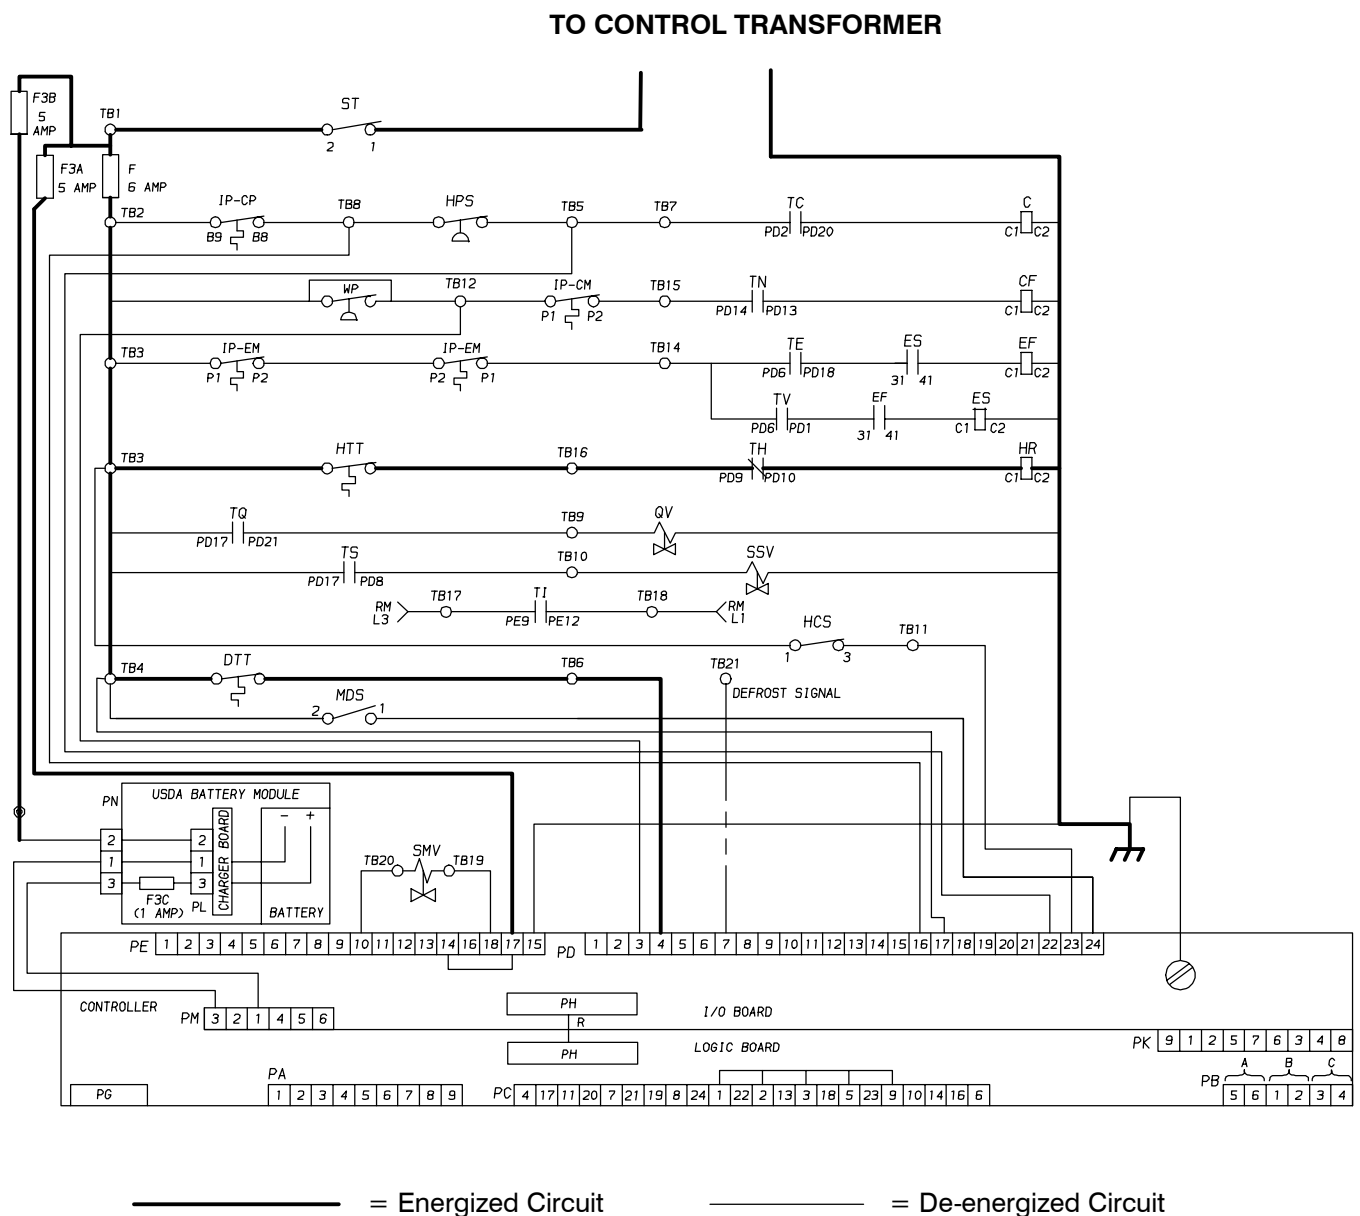

Figure 2-3. Defrost
2.4.3 Defrost (See Figure 2-3.)